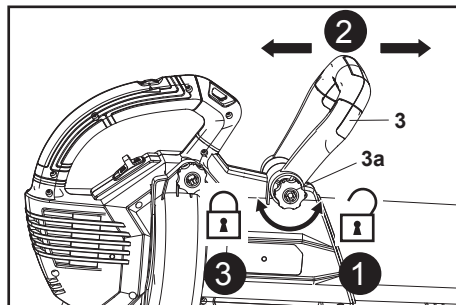

Fig. 7
1. Turn the locking knob (3a) anticlockwise to loosen the front handle (3), then move it forward or backward to adjust the angle (Fig. 7, steps 1, 2).
- Turn the locking knob (3a) clockwise to tighten the front handle (3) (Fig. 7, step 3). Ensure the tooth system locks in place.